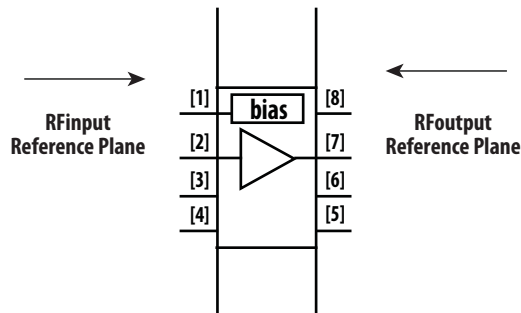

Figure 32.
2. Scattering and noise parameters are measured on coplanar waveguide made on 0.010 inch thick ROGER 4350. The input reference plane is at the end of the RFinpin and the output reference plane is at the end of the RFoutput pin as shown in figure 32.